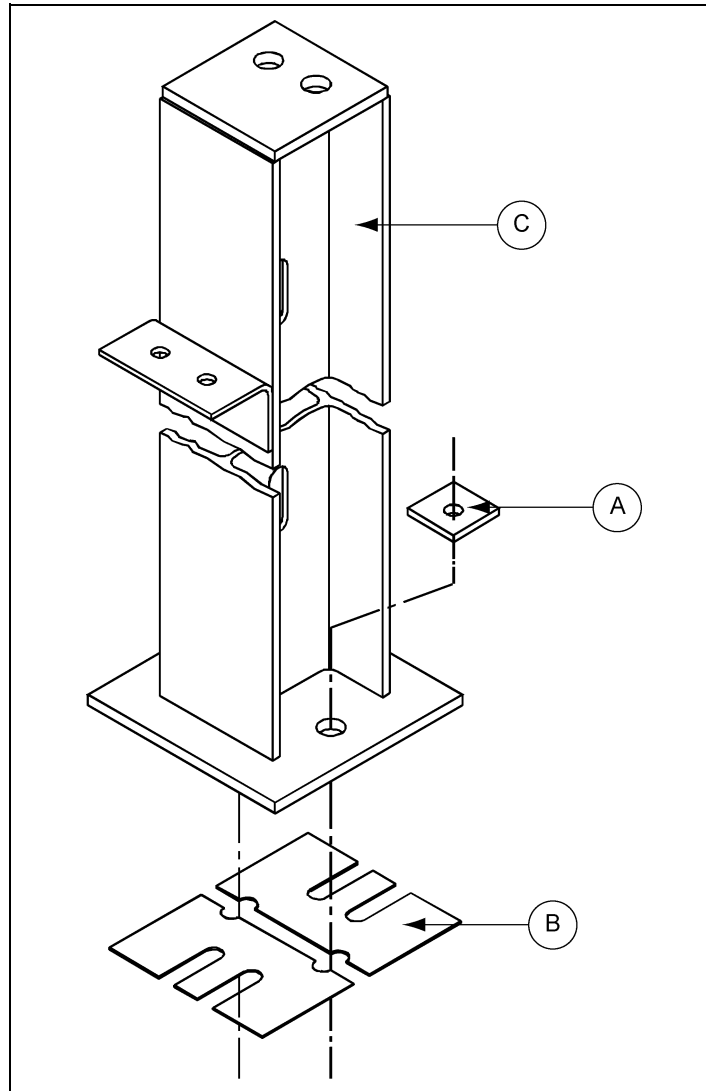

Figure 5A
Before placing the support columns on the anchor bolts, use a transit and surveyor's rod to locate high and low areas in the concrete. To assure level alignment for the support columns, use the proper supplied shim or shims between the concrete and base plate. After leveling is completed, place the support columns over the anchor bolts, with shim plates (B) underneath column. Next place washer (HT-635) over anchor bolts and loosely fasten with nuts and washers (not furnished). Refer to Figure 5A.